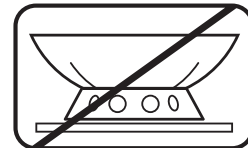

Fig.2
- Do not remove the pan support and enclose the burner with a wok stand not supplied by Electrolux as this will concentrate the flame and deflect the heat onto the top plate.(Fig 2)